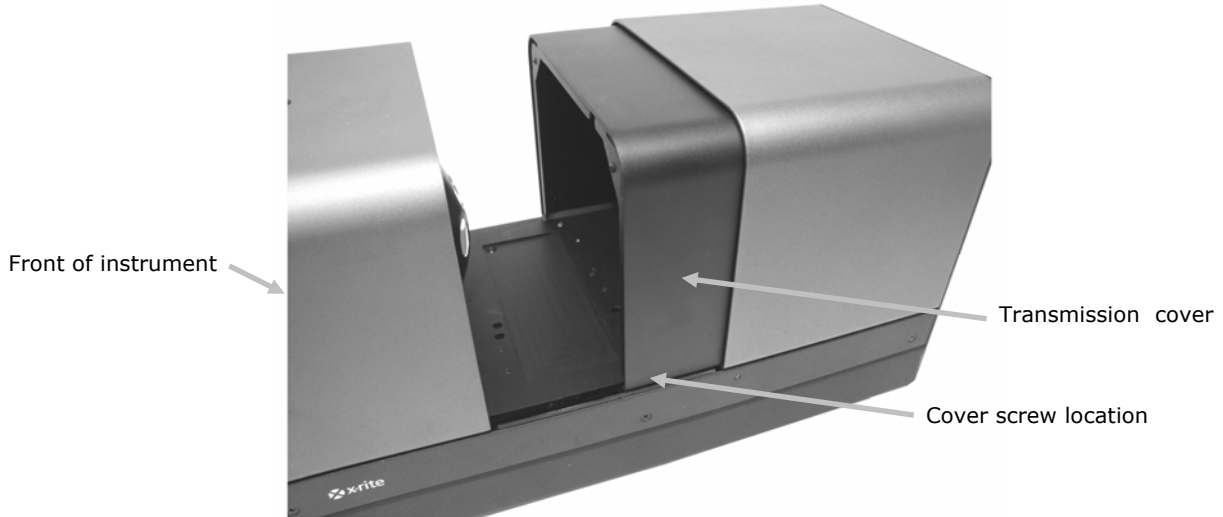

Figure 6. Spectrophotometer with Transmission Cover Partially Open
2. Pull the clamp back and position the sample between the clamp and stop (refer to figures 6 and 7). You may want to temporarily tighten the carriage base thumb screw to hold the clap in place while positioning the sample. Slowly release the sample clamp/carriage base to secure the sample.